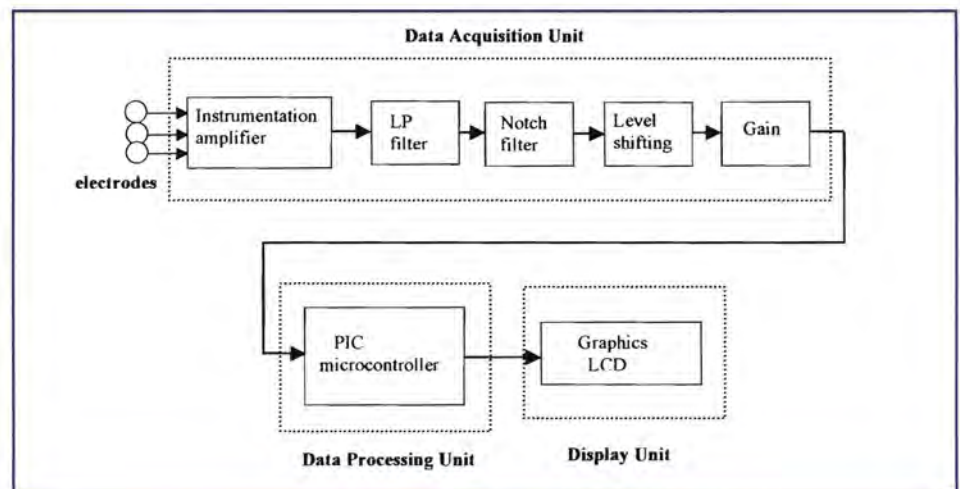

Figure 2: Block diagram of the ECG unit
The block diagram of the ECG unit designed is shown in **Figure 2**. The unit consists of four functionally separate sections: electrodes, data acquisition unit (DAU), data processing unit (DPU) and display unit (DU). The electrodes are used to sense the electrical potential at pre-determined points of the body. The DAU removes any electrical